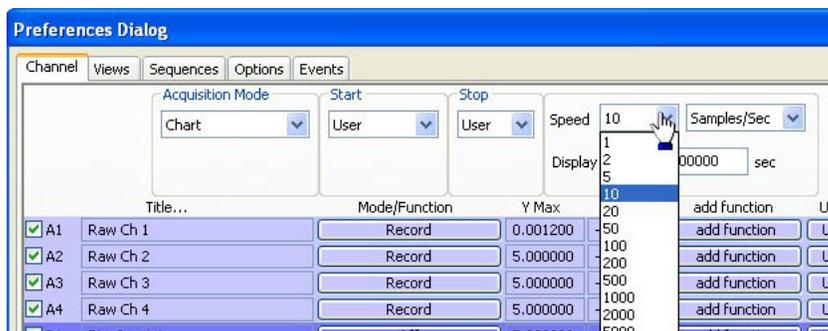

Fig. 37—Select number of samples from Speed drop down lists
- To change the basic default settings, open the **Preferences Dialog** window (Fig. 37) by selecting the **Edit** menu and choosing **Preferences (Right)**.
- Use the two **Speed** drop down boxes to select the number of samples (first drop down box) per unit of time (second drop down box). See Fig. 37. The sampling rate should be chosen to record fast enough to create a minimum of two to three points of data for the fastest signal expected when recording. For use with the **TBR4100/1025**, WPI recommends setting the speed between 10 and 20 samples per second.
- Set the **Display Time** to 60.0 seconds (Fig. 37). The elapsed sampling time displays at the bottom of the default LabScribe main window. This value determines the amount of time viewable in a single data frame, or the “width” of the display window.